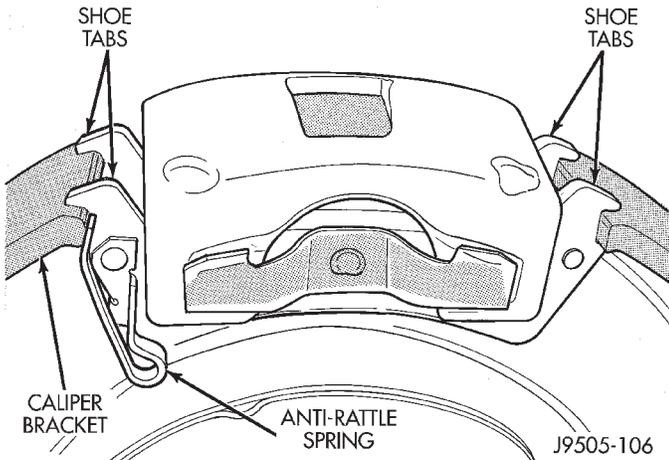

Fig. 41 Correct Brake Shoe Position
- (2) Install brake shoes in caliper.
- (3) Install caliper over rotor and into mounting bracket.
- (4) Verify that brake shoe lugs are properly seated on caliper mounting bracket (Fig. 41). Be sure springs on outboard shoes are also seated against bracket.